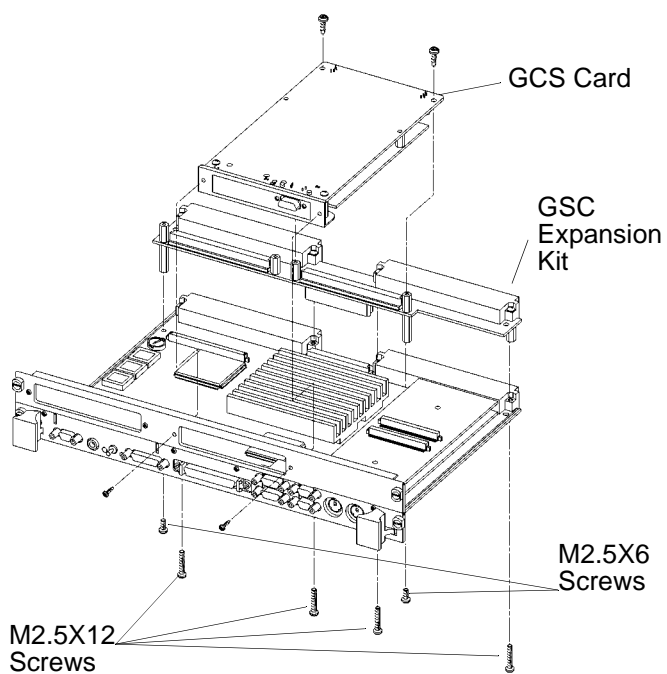

Figure 2-2 **Installing the GSC Expansion Kit (Exploded View with GSC Card)**
- 1 Place the expansion adapter so that you line up the four M2.5x12 screw holes that flank the DIN connectors. See Figure 2-2.